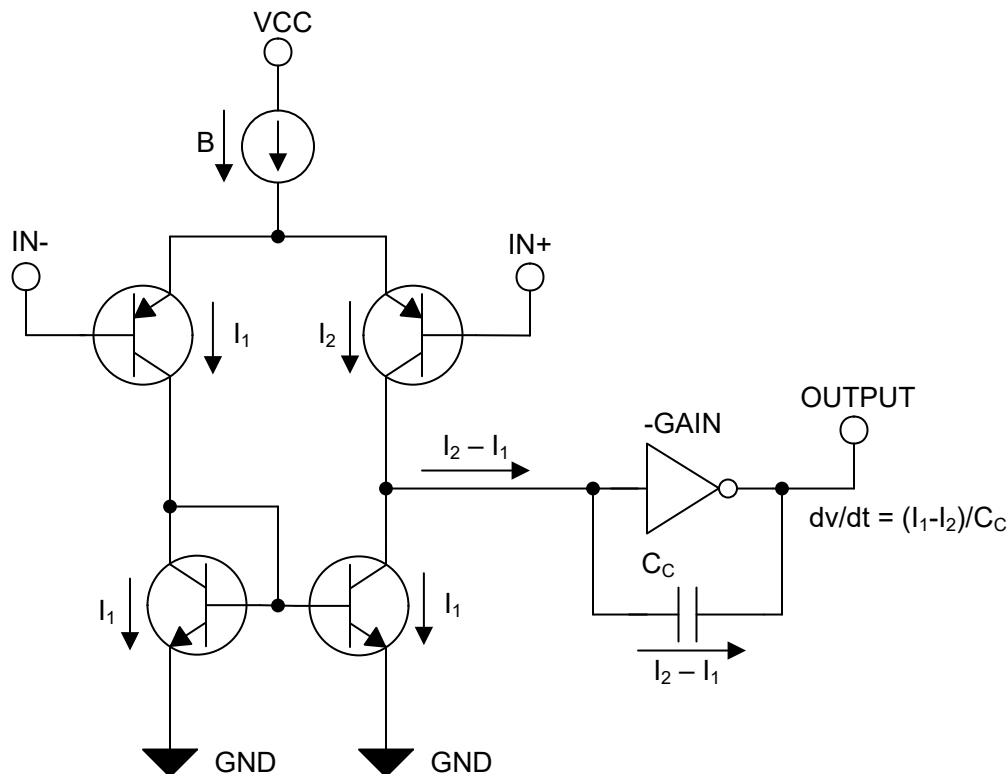

Figure 2-1. Simplified Bipolar Input Stage Schematic
Many bipolar op amp input stages simplify to the circuit in Figure 2-1. The  $V_{ID}$ , [IN+]-[IN-] voltage, controls how the bias current (B) is split between current paths  $I_1$  and  $I_2$ . Current  $I_1$  is mirrored 1:1, to create an output current,  $I_2 - I_1$ , that can vary from -B to +B. This output current charges the compensation capacitor ( $C_C$ ) and this charge rate is inverted to become the output slew rate.